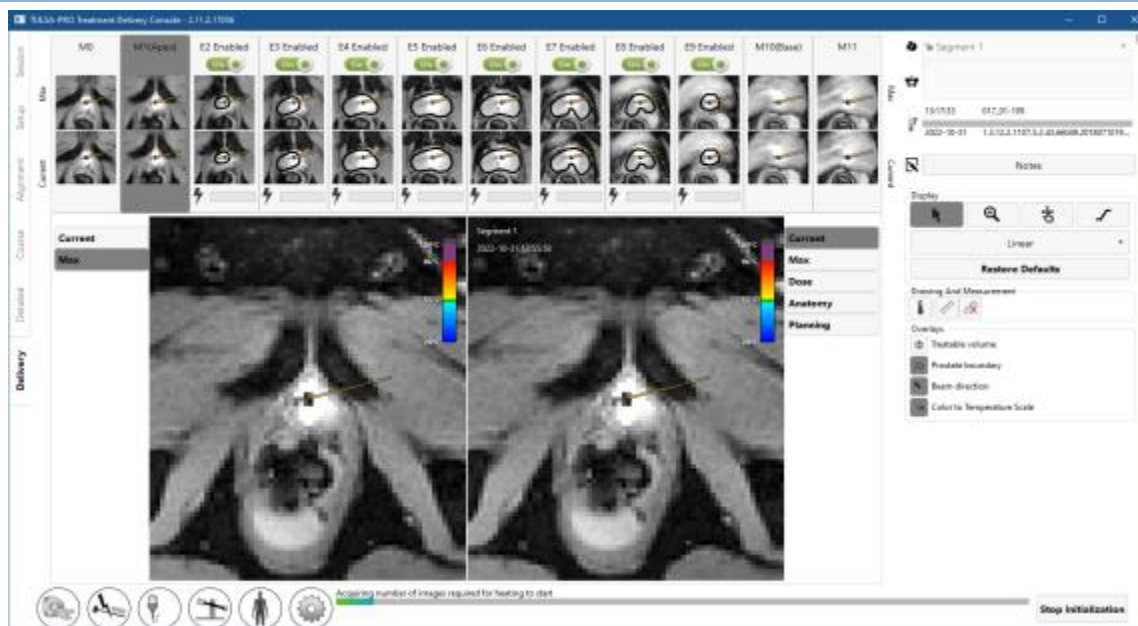

Figure 44: Treatment Initialization state
2. Radiologist: Click **Start treatment** on TDC. A window will prompt you to verify the core body temperature using an external temperature measurement device before proceeding. Enter the temperature in degrees Celsius and click **Confirm**. The software will enter the **Treatment Initialization** state where it will wait to receive thermometry images (*Figure 44*).